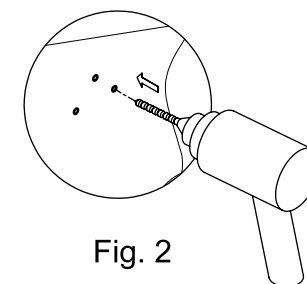

Fig. 2
- Step 2. Drill holes at the marked locations. (Fig.2)